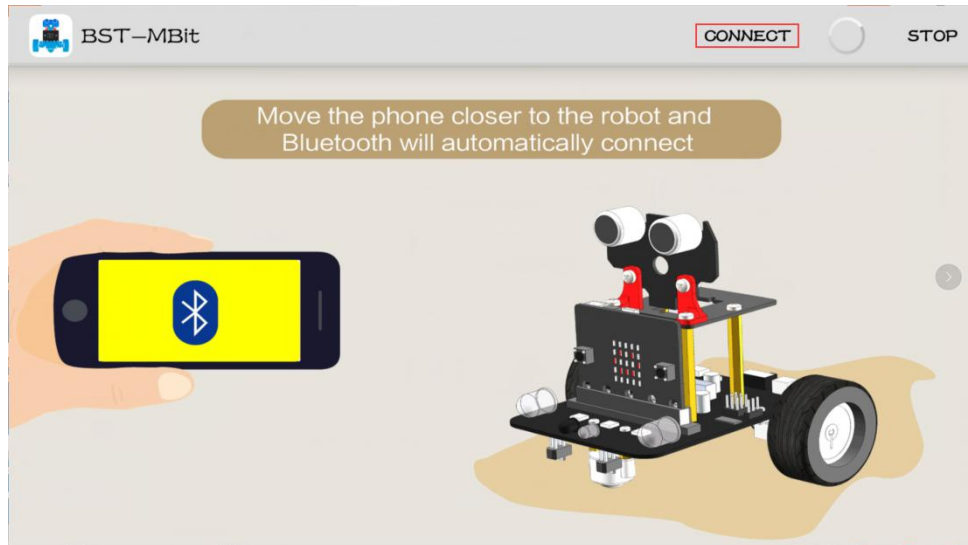

Figure 1.2
6.2 Open the Bluetooth of your mobile phone, and open the Bluetooth APP, Mobile phone close to robot Bluetooth automatic connection. If Bluetooth can't connect automatically, you need to click **【CONNECT】** to connect the Bluetooth between the phone and the robot. As shown in Figure 1.2